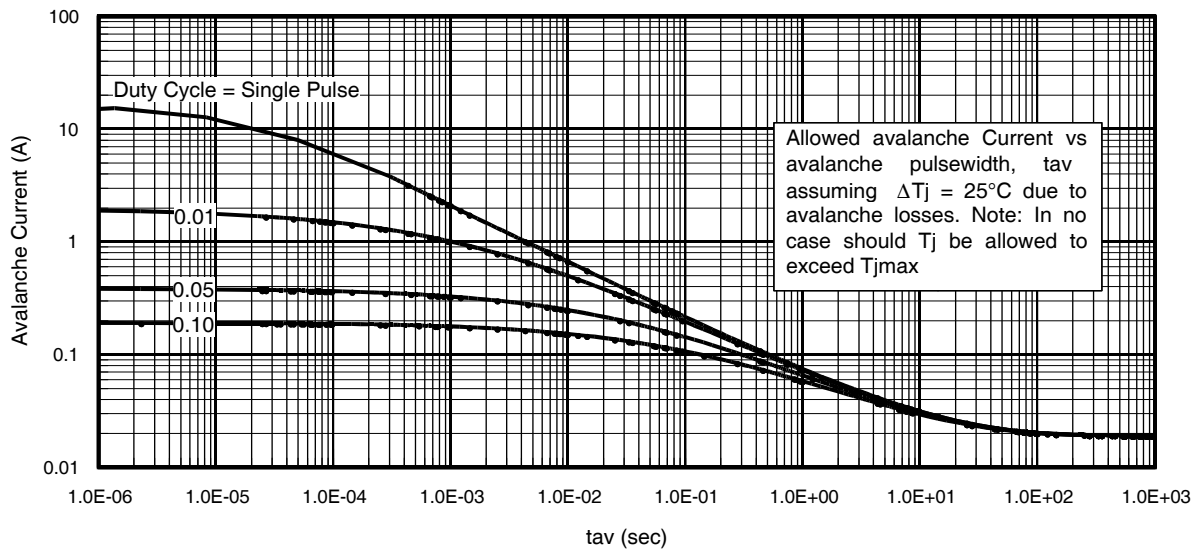

Fig 19. Typical Avalanche Current Vs. Pulsewidth
Notes on Repetitive Avalanche Curves, Figures 19, 20:
7. ΔT = Allowable rise in junction temperature, not to exceed T_{jmax} (assumed as 25°C in Figure 19, 20).